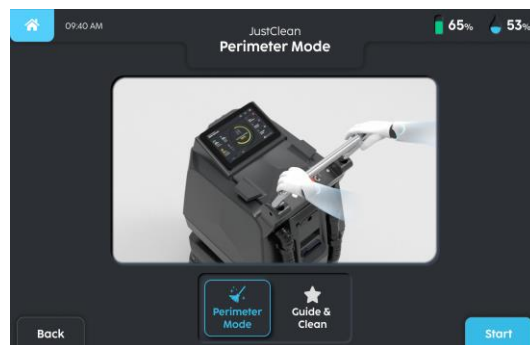

FIGURE 5-13
2. Choose between 'PERIMETER MODE' or 'GUIDE & CLEAN'. (Fig. 5-13).